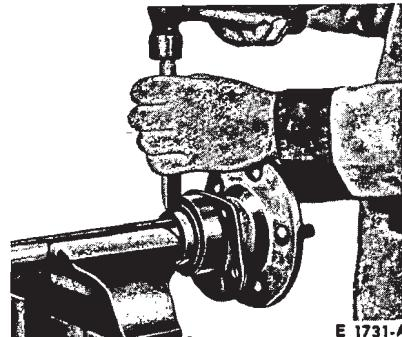

FIG. 5—Removing Rear Wheel Bearing Retainer Ring
1. On all models except Ford, Mercury or Meteor, if the rear wheel bearing is to be replaced, loosen the inner retainer ring by nicking it deeply with a cold chisel in several places (Fig. 5). It will then slide off easily.